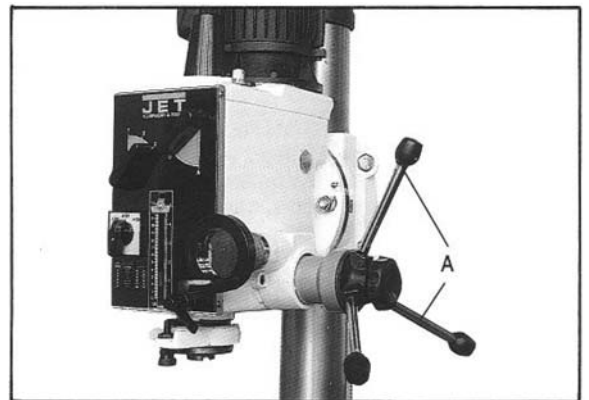

Figure 2
4. For the GHD-20/20T, install three handles with knobs (A, Figure 2) into the downfeed hub. For the GHD-20PF/20PFT, screw two knobs onto the handles of the power downfeed assembly.